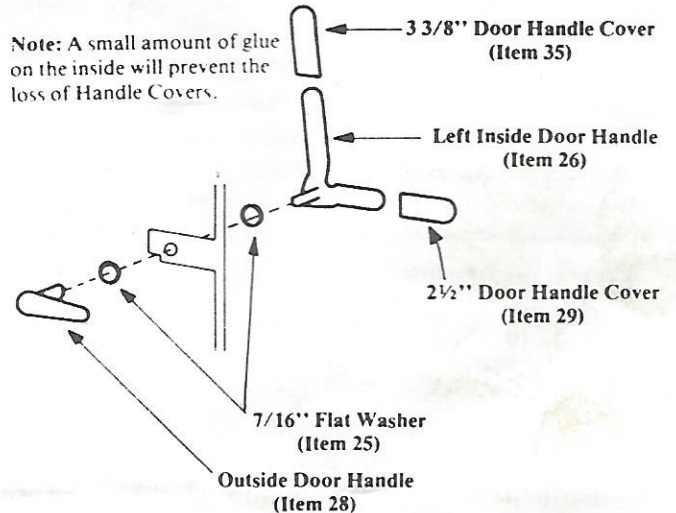

Fig 17
4. Assemble Door Handles as shown in Figure 17 (left door). Press handles firmly together and tighten the set screw in the outside handle with a 3 mm Allen Wrench. Tension of Door may be adjusted by bending handle.